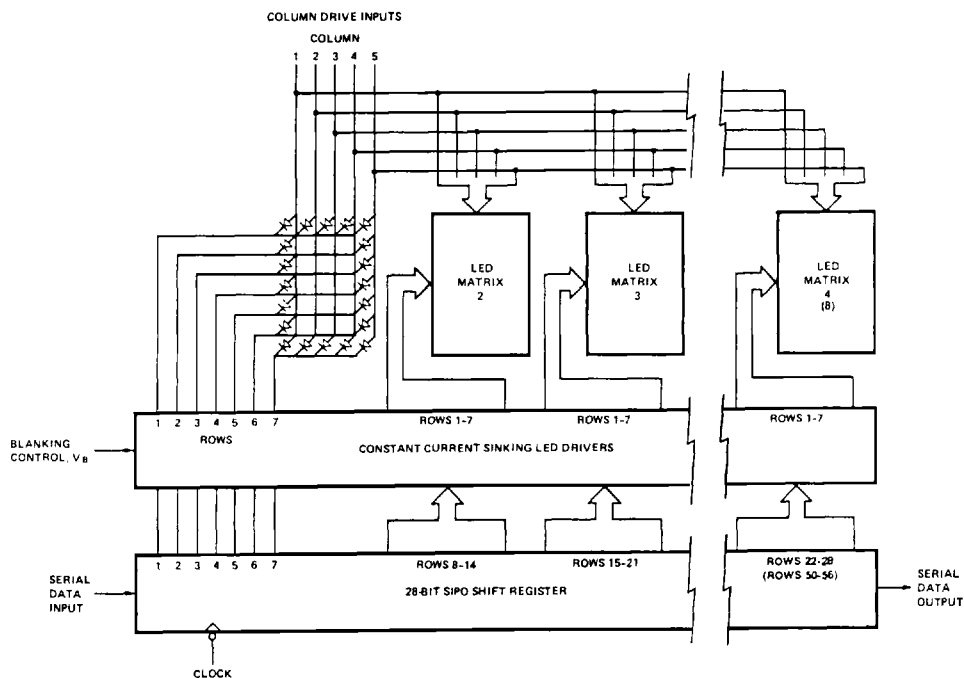

Figure 5. Block Diagram of an HCMS-27XX Series LED Alphanumeric Display.
Each display device contains four or eight 5x7 LED dot matrix characters and two or four CMOS integrated circuits, as shown in Figure 5. The CMOS integrated circuits form an on-board 28 bit or 56 bit serial-in-parallel-out shift register that will accept standard TTL logic levels. The Data Input pin is connected to bit position 1 and the Data Output pin is connected to bit position 28 (56). The shift register outputs control constant current sinking LED row drivers. The nominal current sink per LED driver is 11 mA. A logic 1 stored in the shift register enables the corresponding LED row driver and a logic